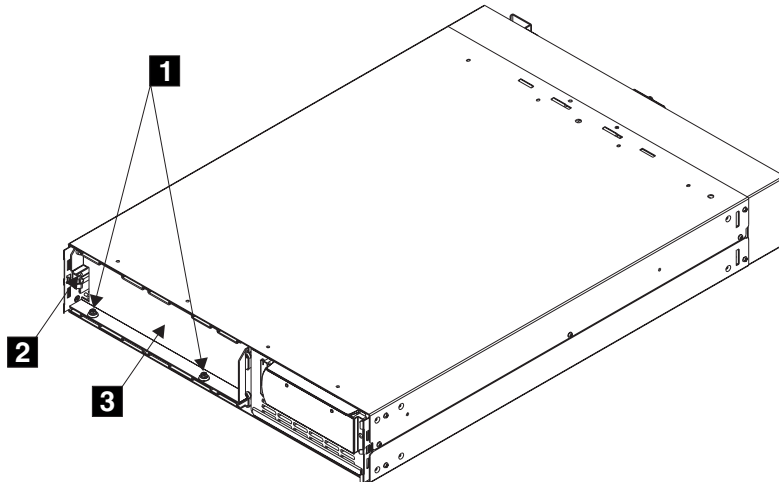

Figure 294. Remove the battery retaining bracket
- c. Remove the two bolts **1** and additional nut **2** on the left side of the bracket. See Figure 294 on page 620.